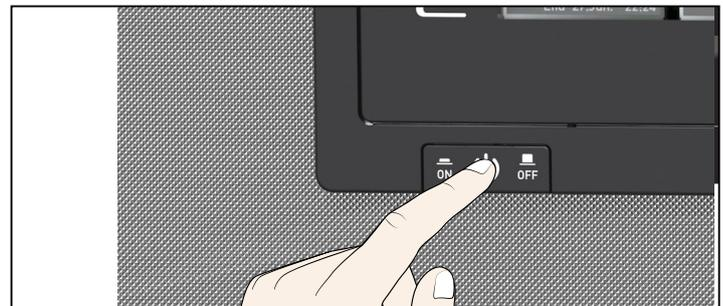

Fig. 16 Switch off appliance
3. Switch off the appliance with the main switch (Fig. 16).